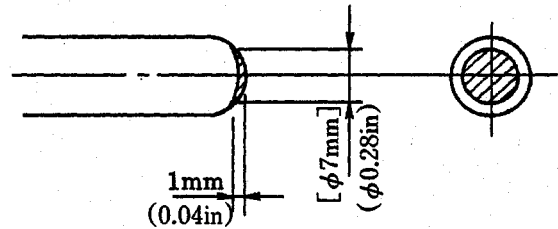

Fig. 12 Wear of push rod
- 4) Replace a push rod that is worn to 1mm (0.04in) or over on its top end. (See Fig. 12.)